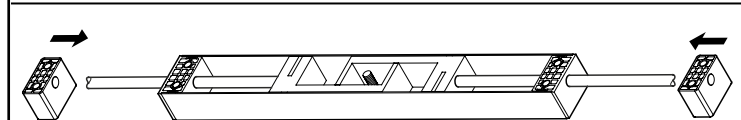

Figure 6c
3. Thread bar support blocks on to the rods (**Figure 6c**).